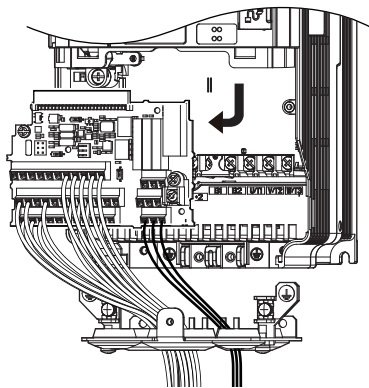

Figure 7.70 Remove the Terminal Board
3. Slide the terminal board as illustrated by the arrows in Figure 7.70 to remove it from the drive along with the bottom cover.